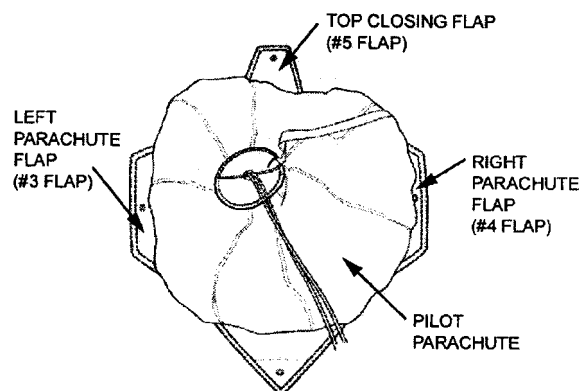

Figure 9. Separate Netting and Canopy From Spring
m. While helper stabilizes the pilot parachute, pull pilot parachute netting and canopy free from spring (Figure 9).